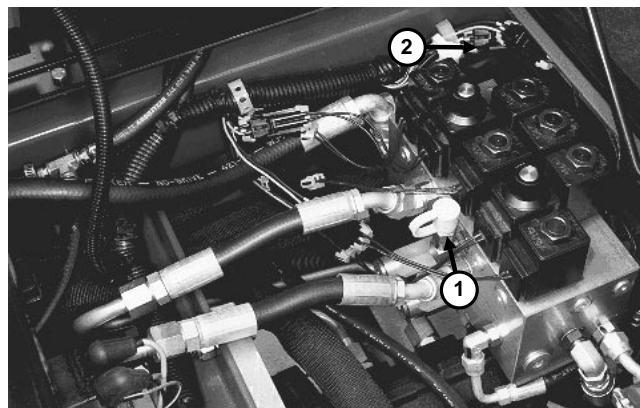
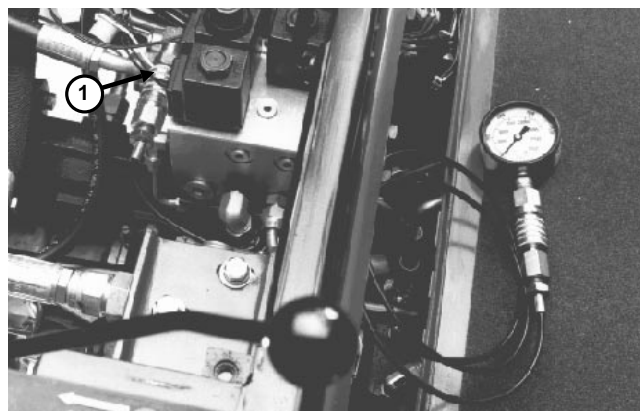

Figure 19
Figure 19A
3. Raise seat to get access to hydraulic test fittings. Remove access cover from in front of hydraulic valve block. Install a 5000 PSI gauge with extension hose onto quick disconnect fitting in port G1 (Fig. 19). Put gauge and hose through opening in front of hydraulic valve block as shown, then lower the seat (Fig. 19A).